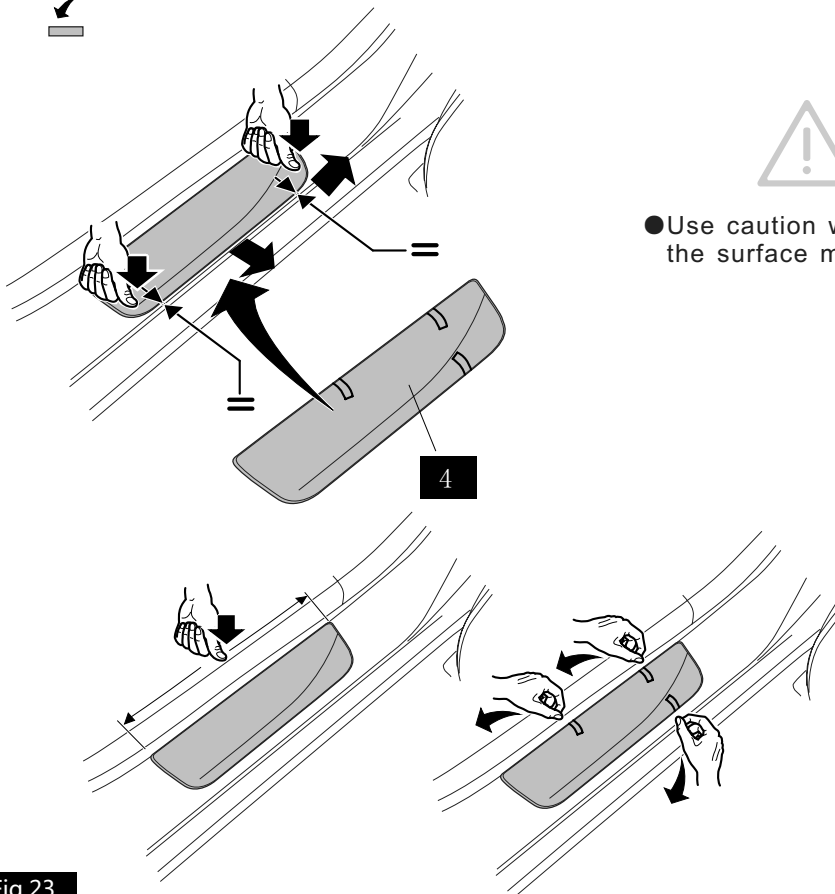

Fig.23
- 4) Pull the pull tab of the double-sided adhesive tape liner to fold outside of the kick plate or to remove the short liner. Shown in Fig. 23.
- 5) Align pins on part to the hole on vehicle from out-side and front-side, being careful to keep the outside edge of the part parallel to the rocker panel. Shown in Fig. 23.
- 7) Apply minimum 11lb (49N) of pressure along the part to attach tape to body shown in Fig. 23.